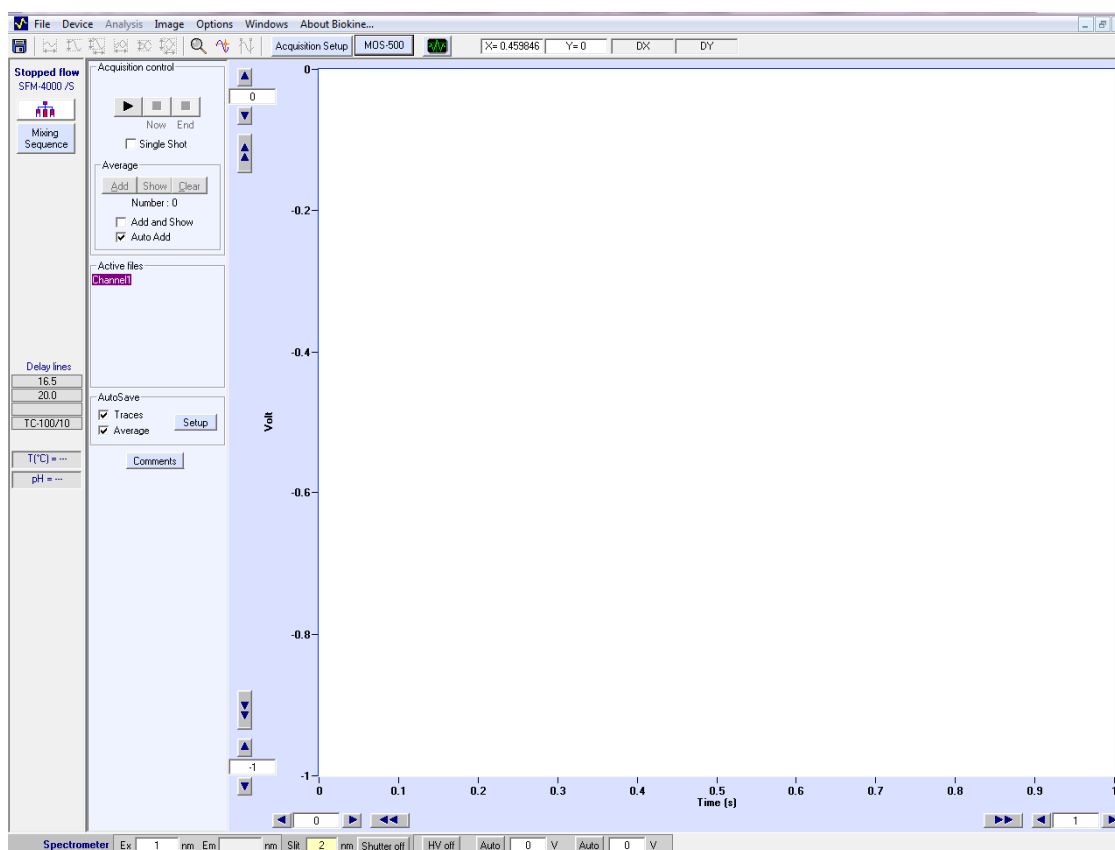

Figure 145 : Transient recorder main window
- In the main menu choose **Device, transient Recorder** to load the window shown in Figure 145